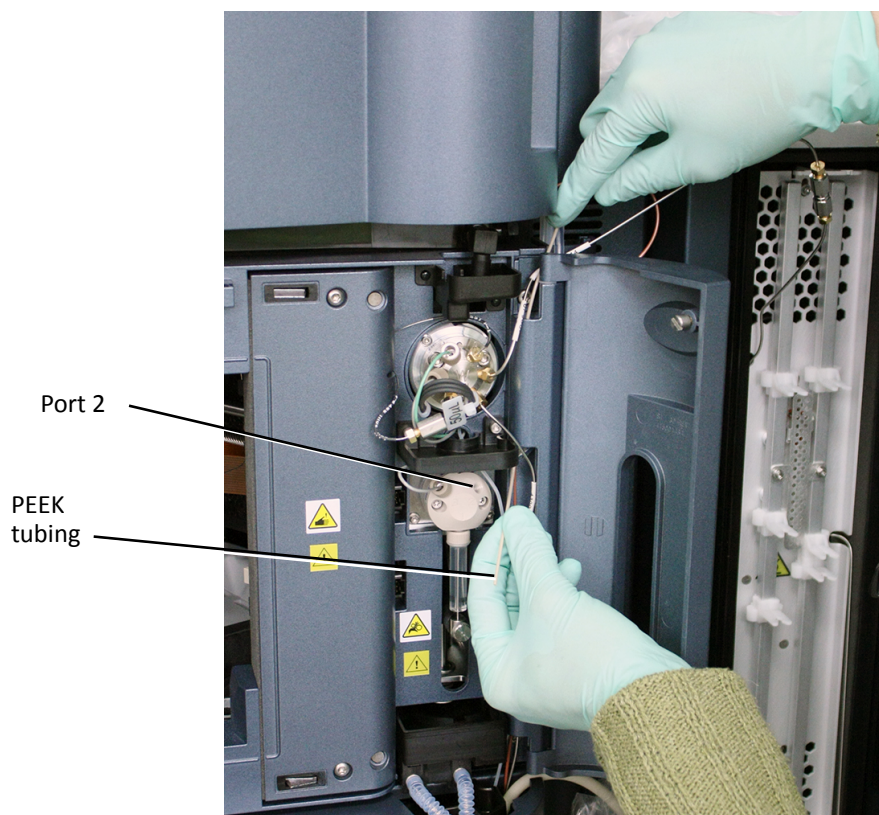

Figure 6 - Routing SM FTN-R purge solvent tube
3. Remove the plug from port 2 (Figure 6) on the SM FTN-R metering syringe.
5. Remove the fitting from one end of the tube, and then route this end downward through the tubing guides and into the SM FTN-R compartment (Figure 6).